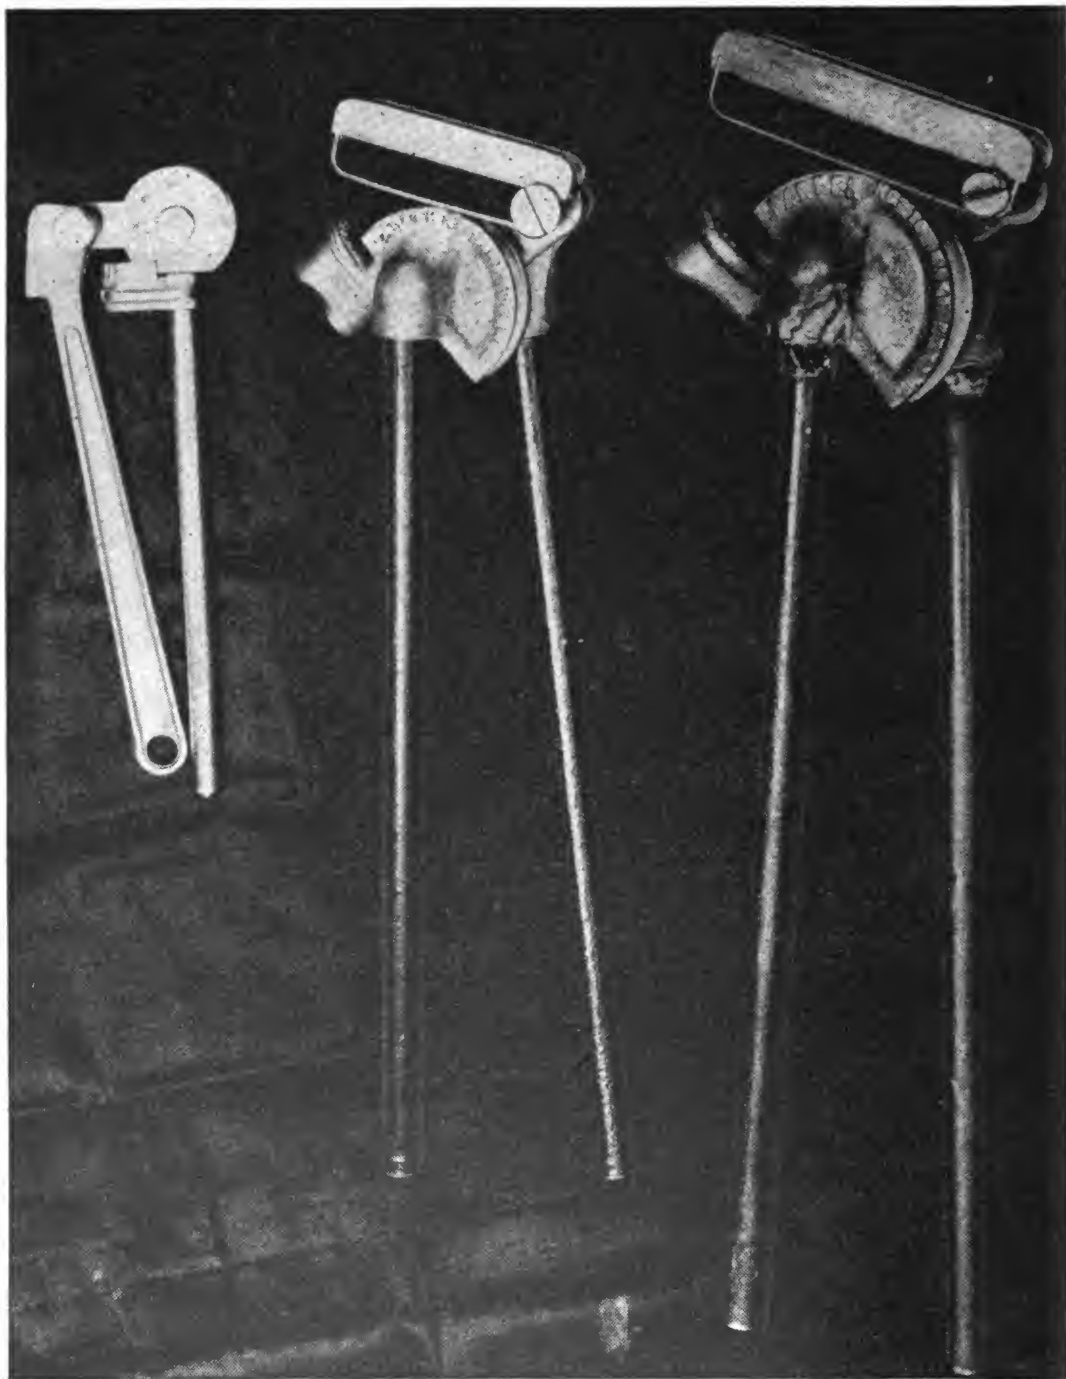

FIGURE 65.—Hand bending machines for three different sizes of conduit.
(3) Rigid conduit is bent by using bending machines. Figure 65 shows several of these hand bending machines. A hacksaw may be used to cut conduit, in which case the bur should be removed with a pipe reamer, a round or half-round file.